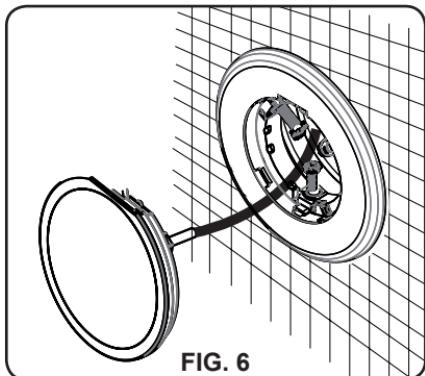

FIG. 6
- Attention: It is advisable to connect with accessories Fig. 6.